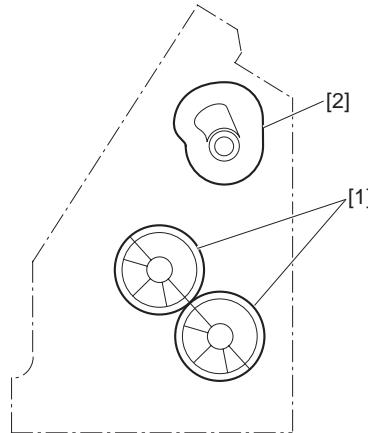
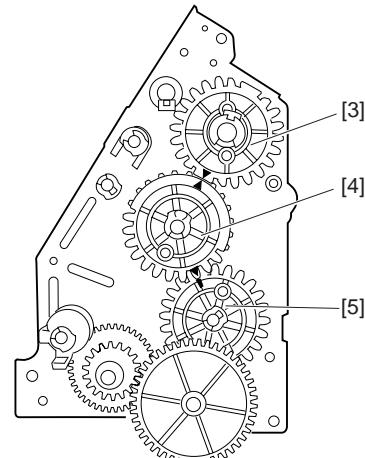

Fig.F03-102-14
Fig.F03-102-15
2) With the paper fold rollers and saddle cam positioned as shown in Figure F03-102-14, mount gears as shown in figure F03-102-15.